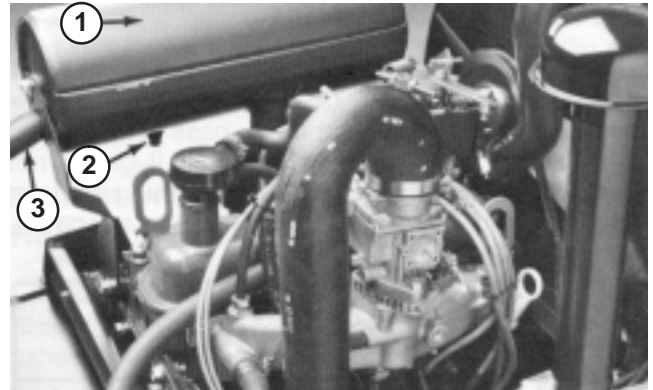

Figure 35
- Remove pipe plug from clean-out port at lower side of muffler (Fig. 35).